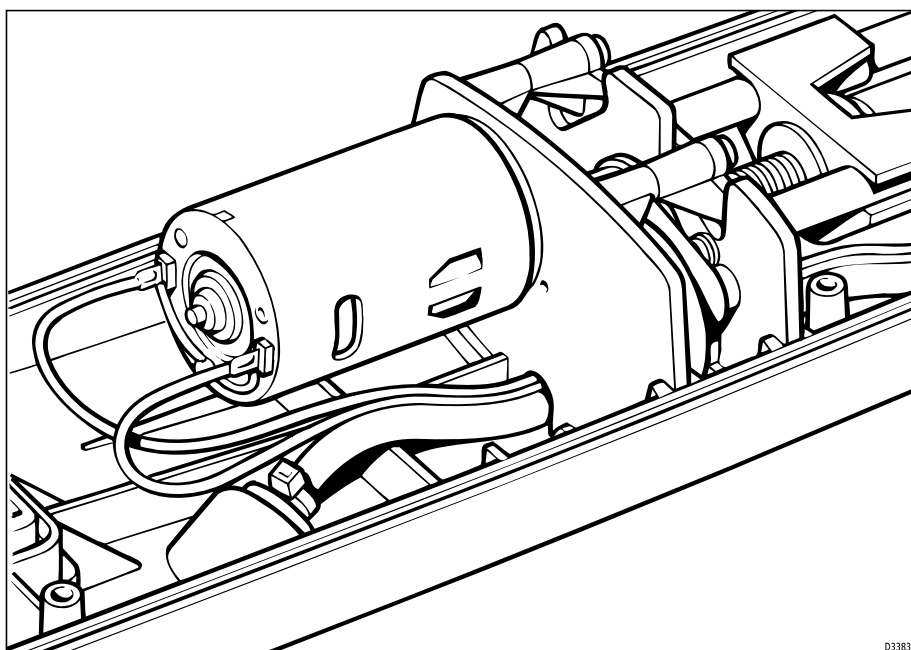

Figure 4. Cable Routing
2. Connect the main cable and motor cable wires to the PCB tags. Ensure correct connection. Refer to Figure 4.